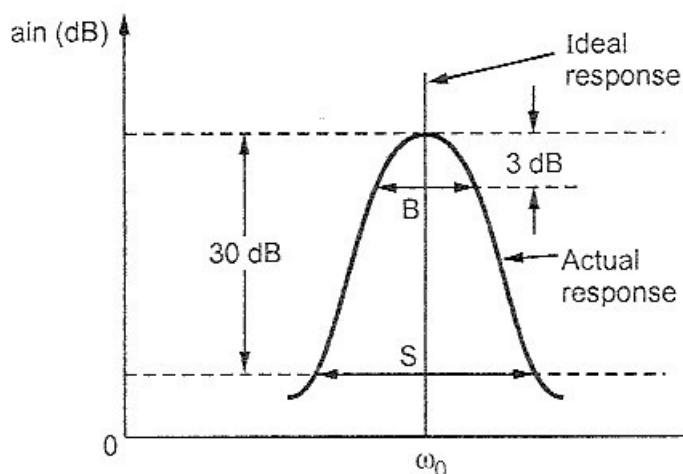

Fig. 3.2 Frequency response of a tuned amplifier
The response of tuned amplifiers is maximum at resonant frequency and it falls sharply for frequencies below and above the resonant frequency, as shown in the Fig. 3.2.
As shown in the Fig. 3.2, 3 dB bandwidth is denoted as B and 30 dB bandwidth is denoted as S . The ratio of the 30 dB bandwidth (S) to the 3 dB bandwidth (B) is known as **skirt selectivity**.